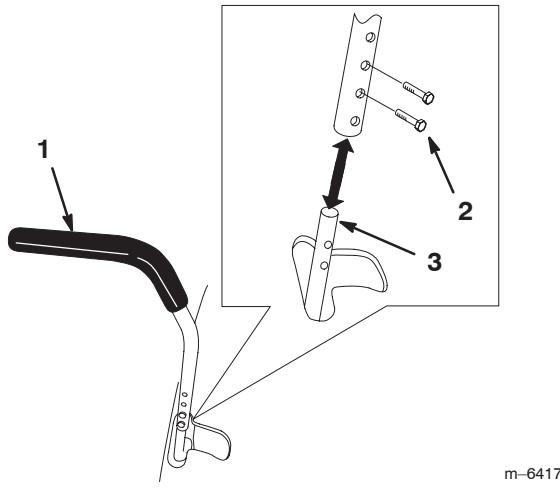

Figure 7
2. Position the control lever to the desired height and align with the holes in the control lever shaft (Fig. 7).
3. Install the 2 bolts (1/4 x 3/4 inch) into the control lever and shaft (Fig. 7).